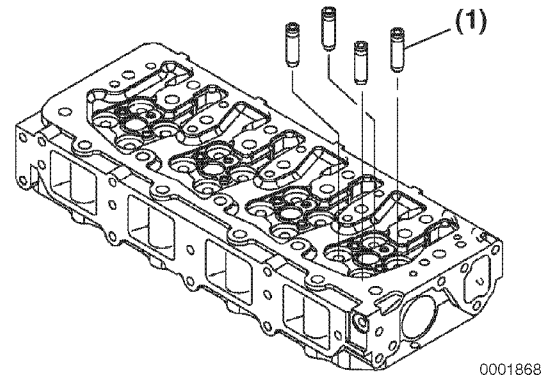

Figure 6-47
1. Using a drift pin and hammer, drive the valve guides (Figure 6-47, (1)) out of the cylinder head.